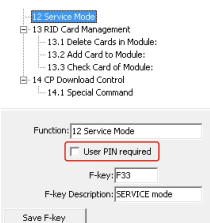

Fig. 2 Tab F - keys
5. Click on row **F33 SERVICE Mode** and uncheck the box **User PIN required** from the settings (see Fig. 2).